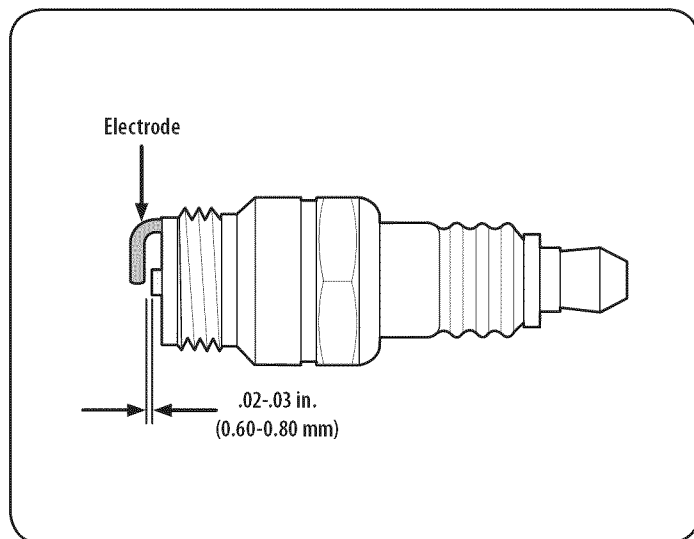

Figure 13
- Measure the plug gap with a feeler gauge. Correct as necessary by bending the side electrode. See Figure 13. The gap should be set to .02-.03 inches (0.60-0.80 mm).